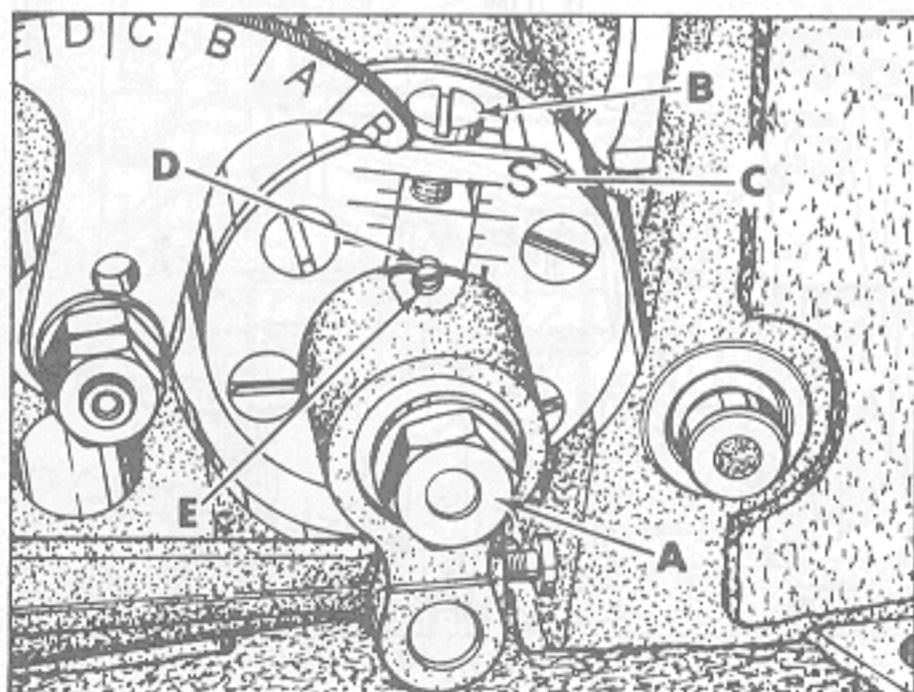

Fig. 11
Set the stitch to required length. This is accomplished by loosening locknut (A, Fig. 11) $1/2$ turn (it has a left hand thread) on the end of the stitch regulating stud and turning stitch adjusting screw (B) located under the left end of the cloth plate, in the head of the main shaft (C), which is marked with "L" and "S". Turning the screw clockwise shortens the stitch (moves stitch regulating stud toward the "S") and turning it in a counterclockwise direction lengthens the stitch (moves stitch regulating stud toward the "L"). Retighten locknut securely.